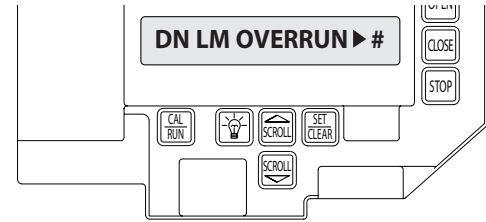

Figure 10
- 2) Press SCROLL  until display reads "OPEN MODE>MOM" or "OPEN MODE>C-STP." **Figure 10.**